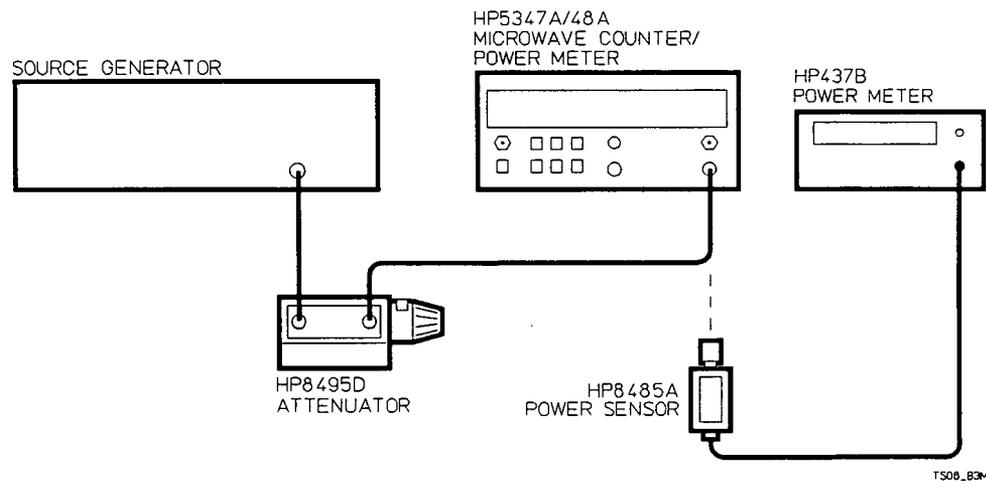

Figure 4-3. INPUT 1, 500 MHz-26.5 GHz Verification Test Setup
1. Connect the equipment as shown in *Figure 4-3*.